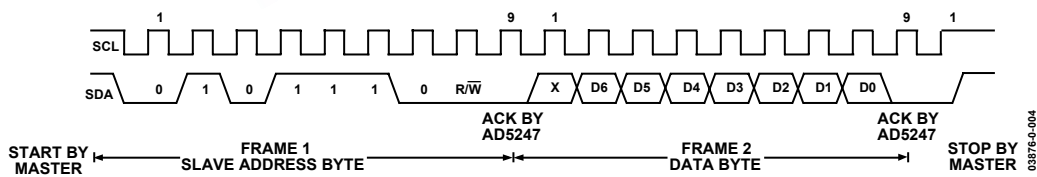
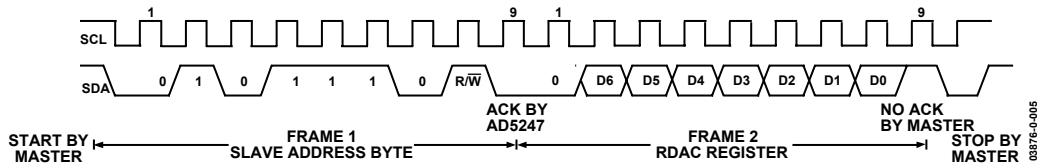

Figure 32. Writing to the RDAC Register
Figure 33. Reading from the RDAC Register
1. The master initiates data transfer by establishing a START condition, which is when a high-to-low transition on the SDA line occurs while SCL is high (see Figure 32). The following byte is the slave address byte, which consists of the 7-bit slave address followed by an R/W bit (this bit determines whether data will be read from or written to the slave device).
3. In read mode, after acknowledgment of the slave address byte, data is received over the serial bus in sequences of nine clock pulses (a slight difference from write mode, where eight data bits are followed by an acknowledge bit). Similarly, the transitions on the SDA line must occur during the low period of SCL and remain stable during the high period of SCL (see Figure 33).
4. When all data bits have been read or written, a STOP condition is established by the master. A STOP condition is defined as a low-to-high transition on the SDA line while SCL is high. In write mode, the master will pull the SDA line high during the tenth clock pulse to establish a STOP condition (see Figure 32). In read mode, the master will issue a No Acknowledge for the ninth clock pulse (i.e., the SDA line remains high). The master will then bring the SDA line low before the tenth clock pulse, which goes high to establish a STOP condition (see Figure 33).